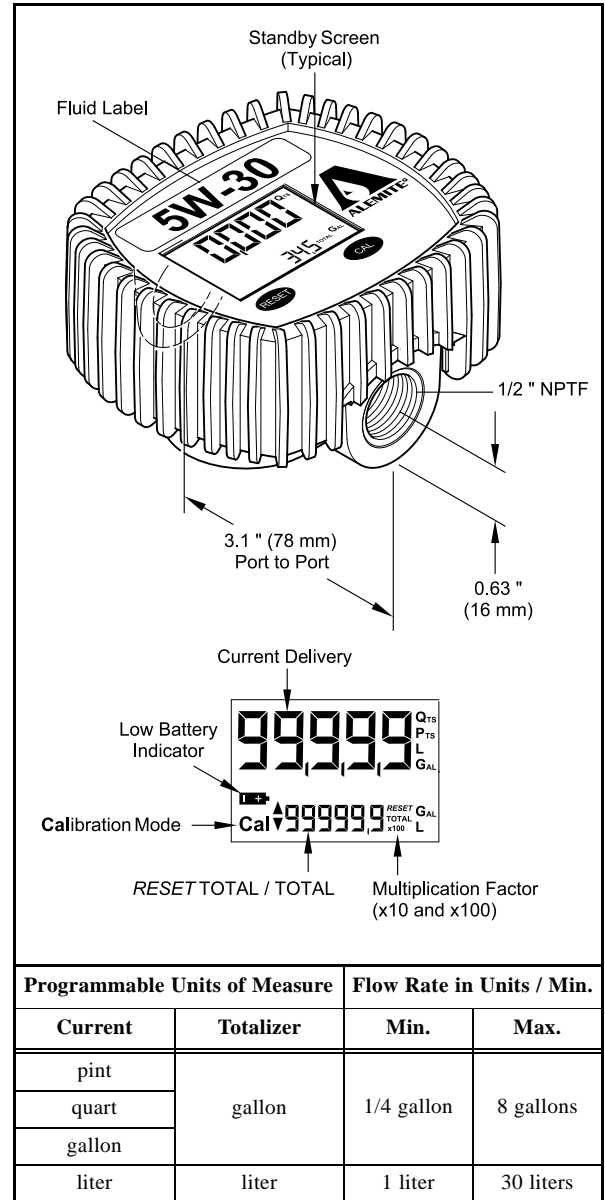

Figure 1 Electronic Meter Model 3679
To zero the current delivery and **RESET TOTAL** the meter must be in Standby. See **Figure 1**.
*IMPORTANT: The meter must be in Standby to begin any programming function. See **Figure 1**.*
- The screen scrolls through the available units of measure (see **Figure 1**).